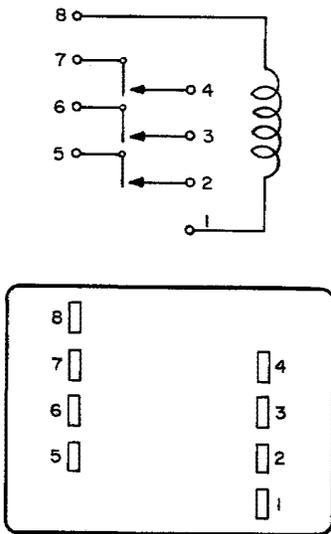

Fig. 71 - Winding and Spring Terminal Numbering - 311-Type Relay
2.79 As viewed from the rear, the winding and spring terminals are designated as shown in Fig. 71 and 72.